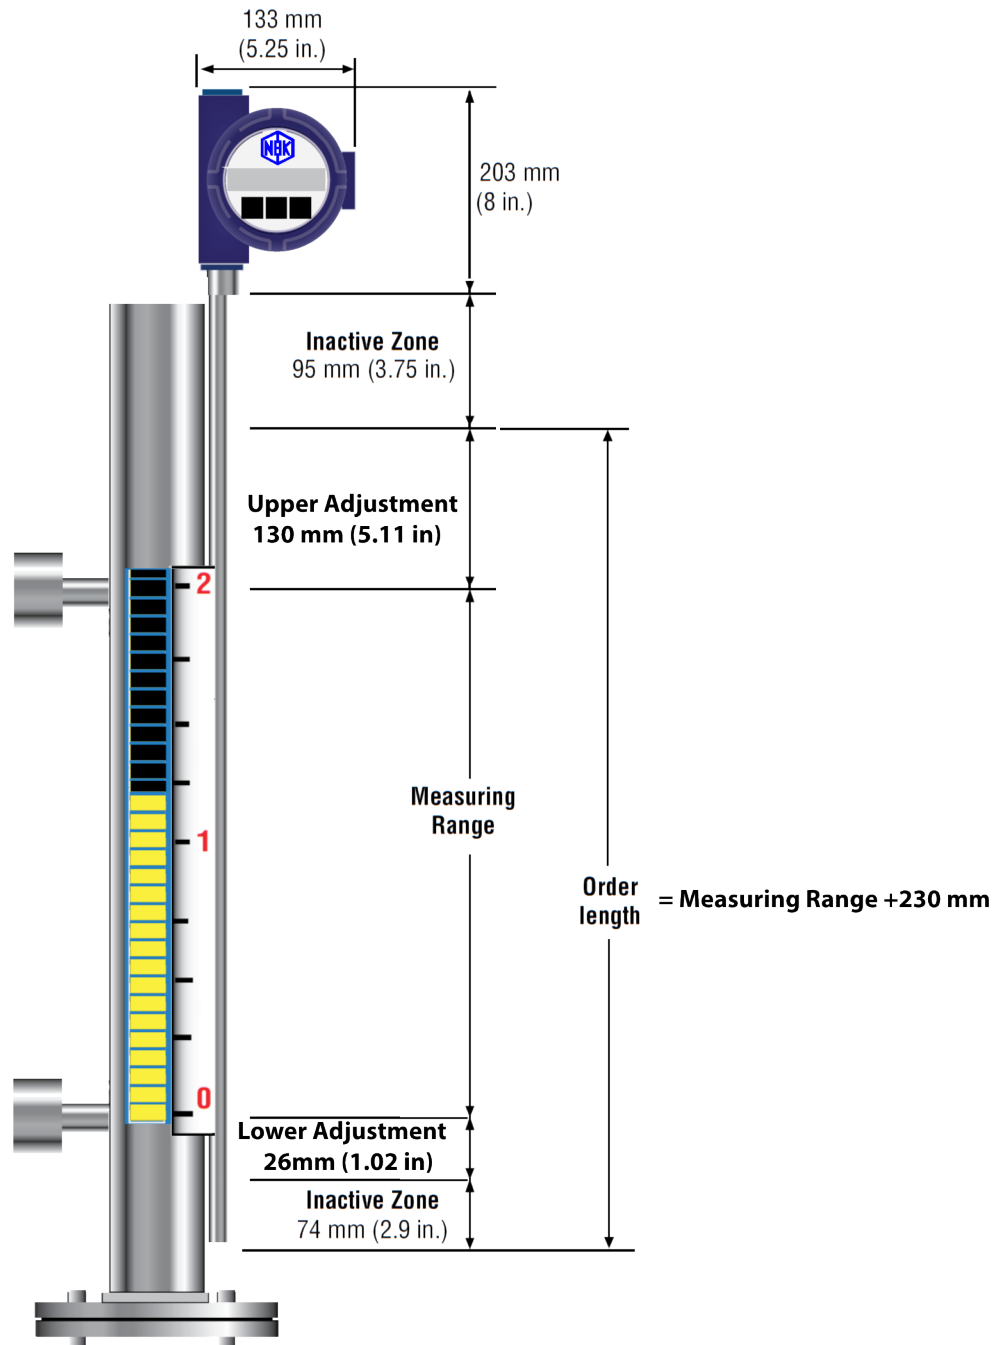

Figure 1. Model MR mounting, bottom flange
Nihon Klingage offers the Level Plus Model MR3/4 transmitter configured for external mounting to most Magnetic Level Gauges (MG) (see 'Figure 1'). The model MR can be ordered with the standard 5/8 inch OD pipe or the optional 1/2 inch OD pipe from 508 mm to 5000 mm. Stainless steel hose clamps are typically used to secure the model MR to the MG.